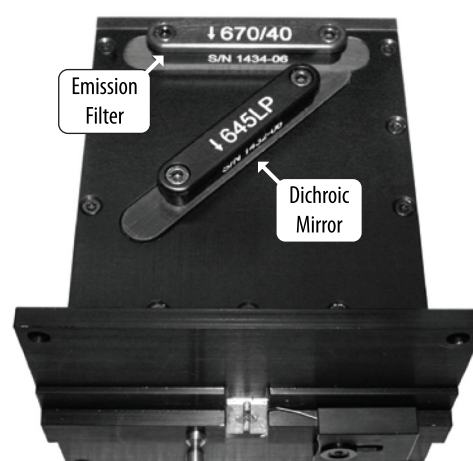

Figure 2. The optics slide removed from the instrument. Arrows indicate the dichroic mirror and emission filter.
3. Remove the dichroic mirror and emission filter from the optics slide (*Figure 2*), and place them into their storage boxes.